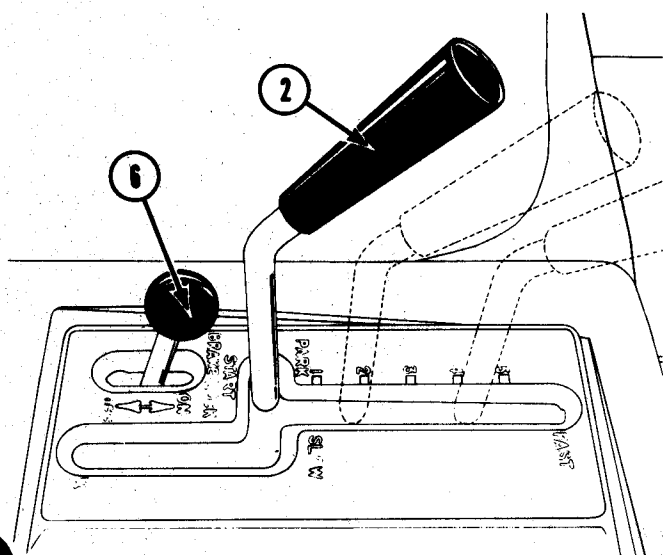
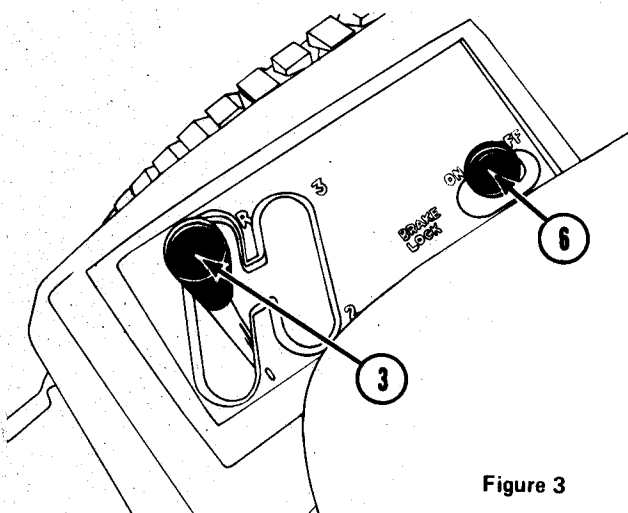

Figure 2
Figure 3
(Hydrostatic Models — Figure 2)
③ GEAR SHIFT LEVER (Gear Shift Models) — Figure 3
THE GEAR SHIFT LEVER MUST BE IN THE FORWARD NEUTRAL POSITION AS SHOWN IN FIGURE 3 TO START THE ENGINE.
⑥ BRAKE LOCK — Figures 2 and 3
To lock the brake, push the brake lock forward with the foot pedal fully depressed. Then release the foot pedal. Figure 2 shows the brake lock engaged. Figure 3 shows it disengaged.